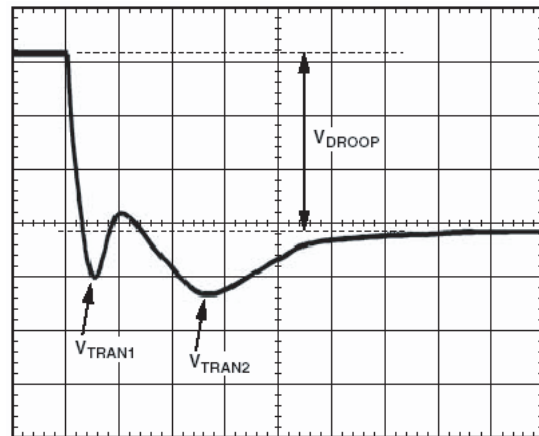
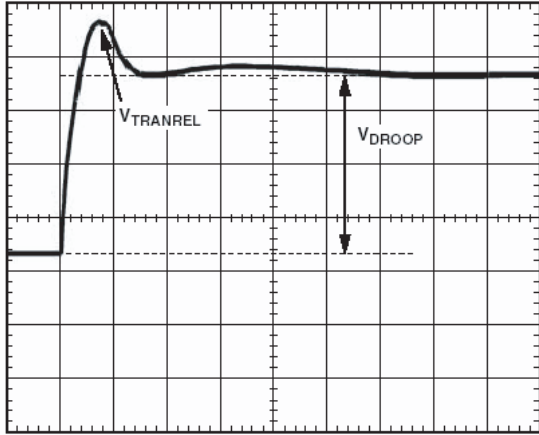

Figure 9. Transient Setting Waveform
Figure 10. Transient Setting Waveform
19. With dynamic load still set at maximum step size, expand scope time scale to see 2µs/div to 5µs/div. You will see a waveform that may have two overshoots and one minor undershoot (see Figure 9). Here, V_{DROOP} is the final desired value.
21. For load release (see Figure 10), if V_{TRANREL} is larger than V_{TRAN1} (see Figure 9), you do not have enough output capacitance. You will either need more capacitance or to make the inductor values smaller (if you change inductors, you need to start the design over using the spreadsheet and this tuning procedure).